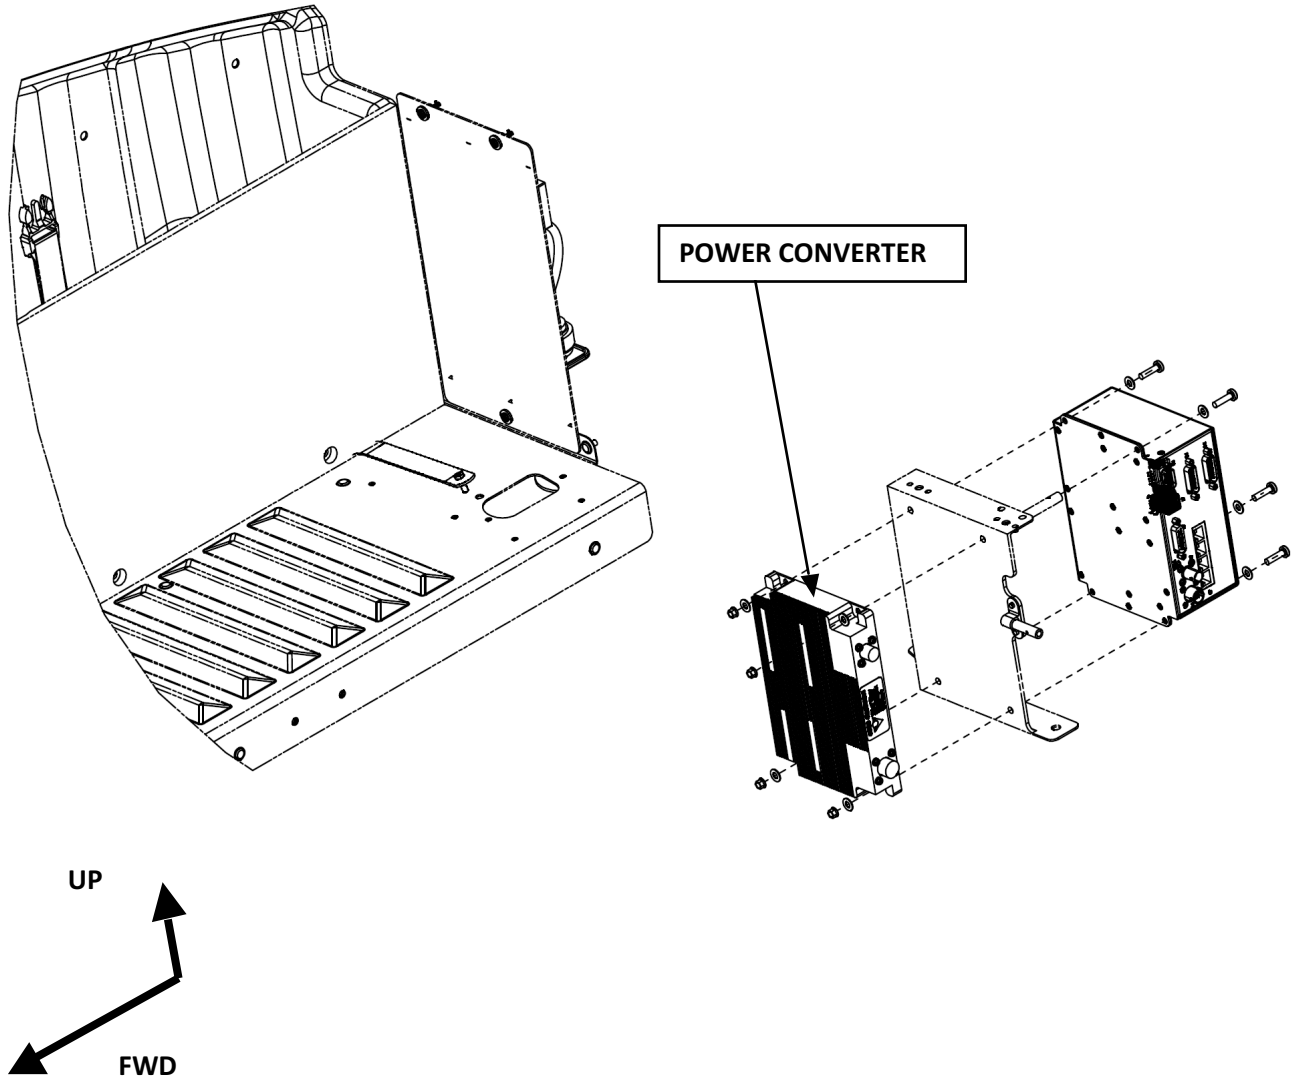

Figure B8: ESMU and Power Converter Mounting to Bracket
- » The captain's ESMU and power converter will be mounted to the existing ESMU/PC mounting bracket located on the aft side of the captain's flight bag stowage area. See Figure B5. For ESMU/PC unit location, refer to Figure B8.
- » The first officer's ESMU and power converter will be mounted on the existing ESMU/PC mounting bracket and is located on the aft side of the first officer's flight bag stowage area. See Figure B6. For ESMU/PC unit location, refer to Figure B8.
- » The unit location is a mirror image for the captain's side. The ESMU and power converter installation on the existing mounting bracket is shown on Figure B8. The unit location is a mirror image for the captain's side.